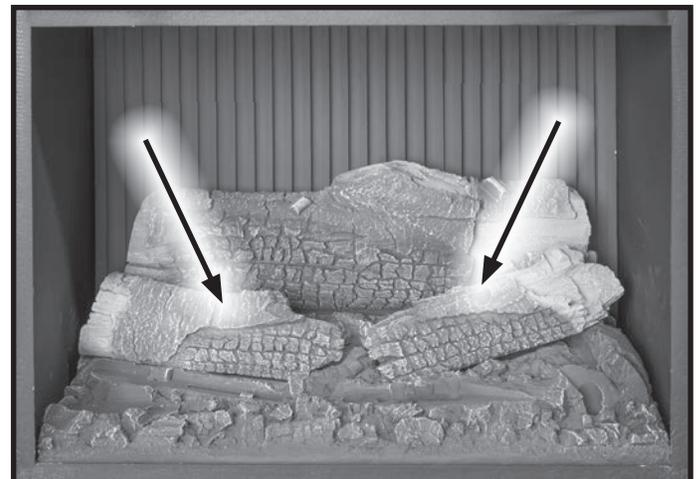

Figure 46. Rear Ember Bed Logs.
4. Next, Install the two large flat bottomed logs in the middle of the ember bed as shown in Figure 46.